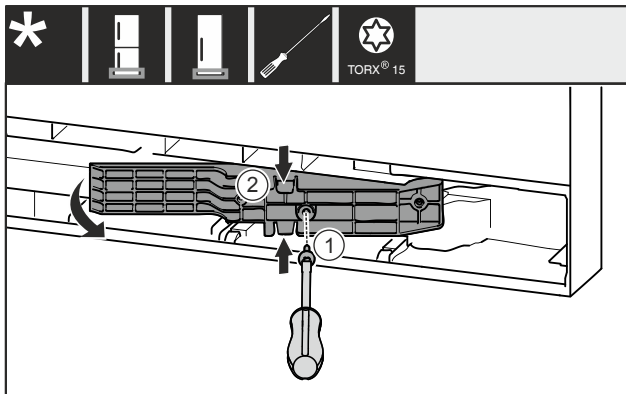

Fig. 20*
- Remove the screw Fig. 20 (1).*
- Gently press the top and bottom of the adapter piece Fig. 20 (2) together and pull it out.*